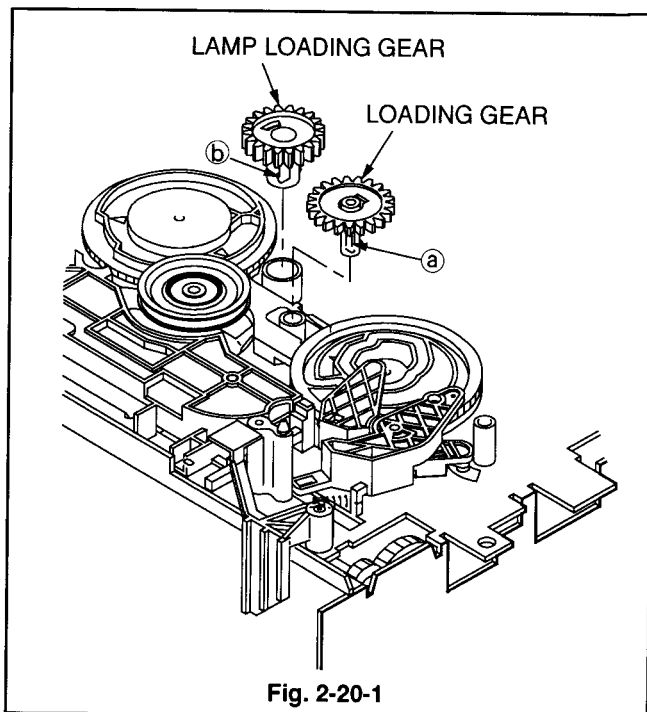

Fig. 2-20-1
- 1 Unfasten the catch (Ⓐ) on the surface of the LOADING GEAR shown in Fig. 2-20-1 with tweezers, etc. to remove the LOADING GEAR.
- 2 Unfasten the catch (Ⓑ) on the surface of the LAMP LOADING GEAR shown in Fig. 2-20-1 with tweezers, etc. to remove the LAMP LOADING GEAR.
- 2 Install the LAMP LOADING GEAR shown in Fig. 2-20-1.
- 4 Install the LOADING GEAR shown in Fig. 2-20-1.